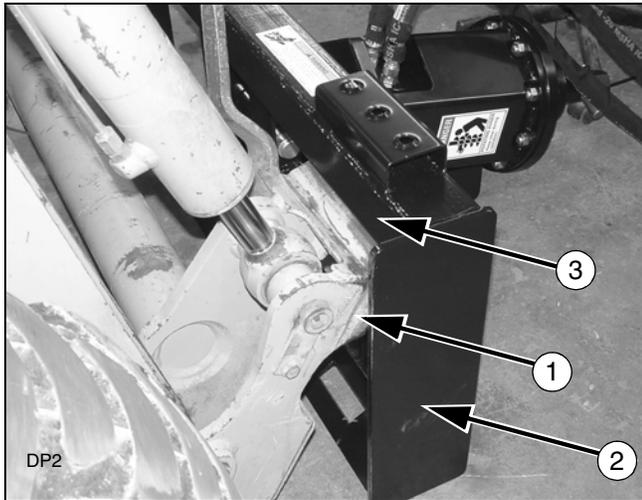

Figure 2. Skid Steer to Auger Connection
- Pull forward to the auger. Be sure the outside of the skid steer attachment coupler (1) is aligned with the inside of the auger mounting adapter plate (2) as shown in Figure 2.